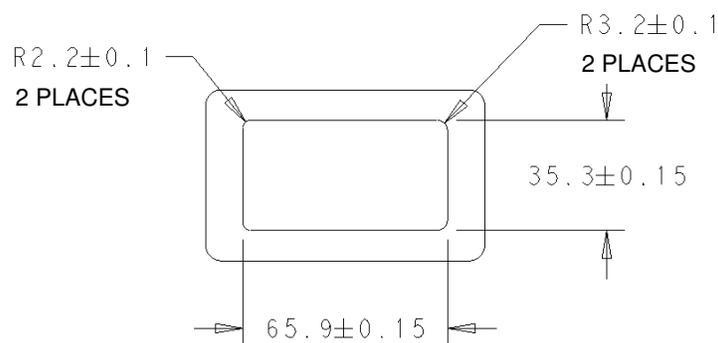

Figure 4
The recommended panel cutout dimensions are as shown in Figure 4. The panel cutout and Cap Housing are keyed in the corners so the Cap Assembly can only be oriented in one direction.
1. Insert the Cap Assembly through the panel opening. The Cap Assembly is keyed to the panel, see Figure 4. Ensure that the corners of the Cap Assembly are aligned with the panel during insertion.